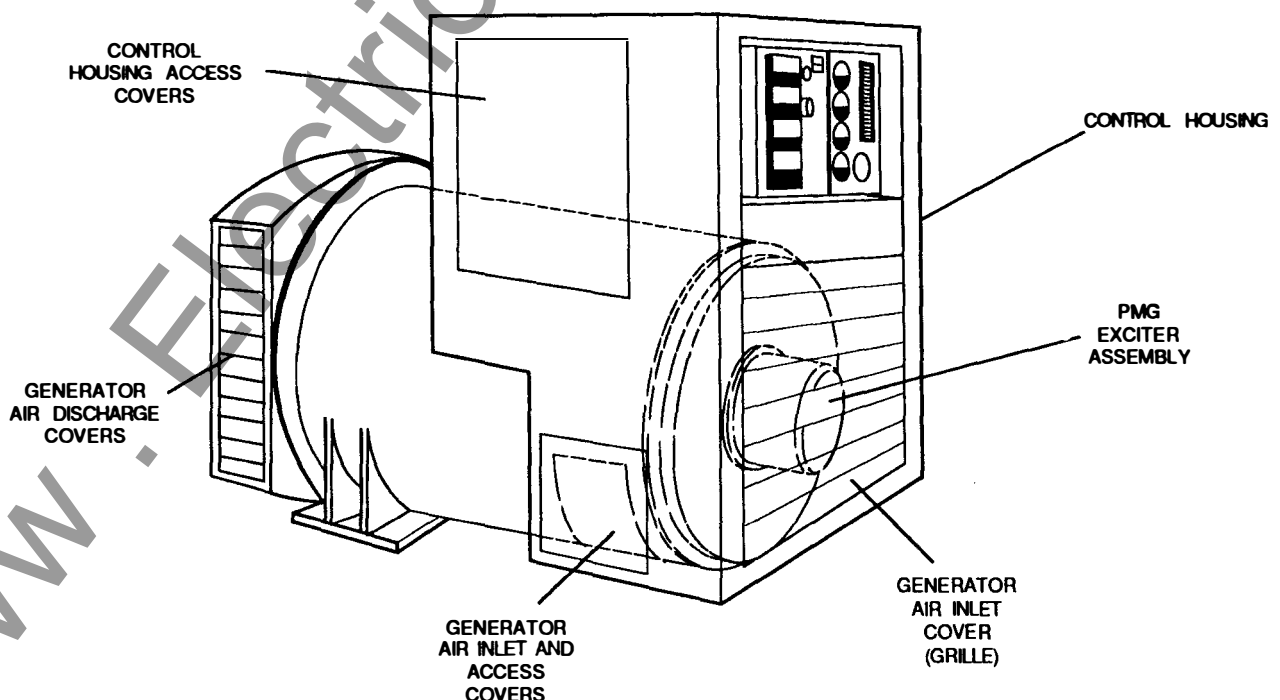

FIGURE 6-1. GENERATOR AND CONTROL HOUSING ASSEMBLY
2. Remove the generator air inlet panel and access covers from control housing (see Figure 6-1).
1. Remove the air inlet and discharge panels and access covers from control housing and generator (see Figure 6-1).